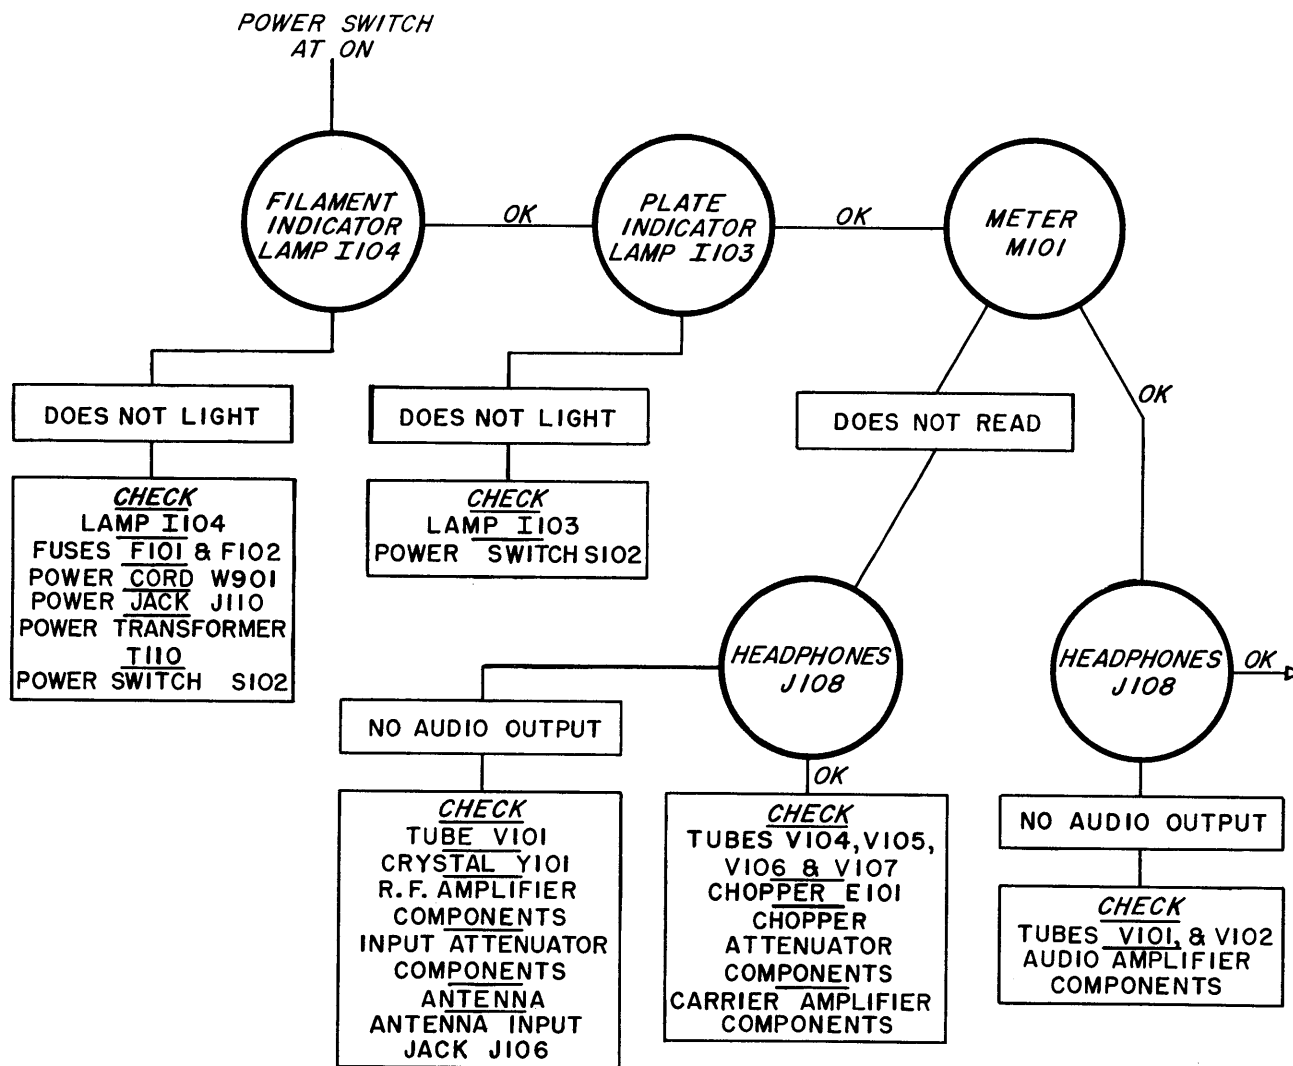

Figure 7-2. Trouble Shooting Chart
Figure 7-2 is a trouble shooting chart which lists in a logical sequence a series of checks to be made to locate quickly the specific circuit causing faulty monitor operation. Probable sources of trouble are also given in the approximate order of the probability of their occurrence. The trouble shooting chart does not list all possible troubles. It does, however, list those that are most likely to occur. In most cases, the use of the chart will localize a source of trouble sufficiently well to enable its precise location by voltage and resistance checks in the suspected area.
a. GENERAL.—The location of trouble in the monitor can be accomplished by making the series of checks outlined on the Trouble Shooting Chart, Figure 7-2. All of the checks outlined thereon are accomplished by aural or visual tests. Tubes should be checked in a tube tester such as Navy Model OZ series, Tube Tester TV-3/U series or equivalent or by replacement with tubes of proven quality. Specific stages and their components can be checked by performing voltage and resistance measurements as outlined on Figure 7-3. Constant reference to the schematic diagram, Figure 7-15 and the practical wiring diagram Figure 7-16, is required for efficient trouble shooting. A thorough inspection of the monitor and its external connections should be made before attempting any adjustments or repairs.